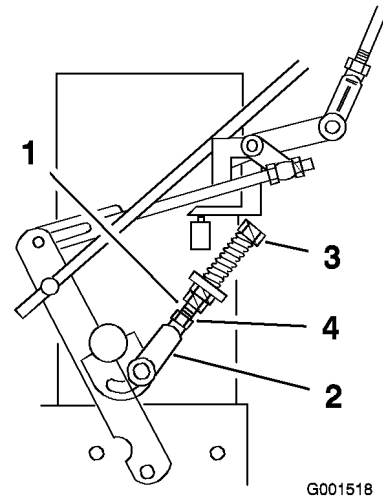

Figure 35
9. If the wheel turns while holding the drive lever in neutral, the neutral control linkages need to be adjusted (Figure 35). If wheel stops then go to step 12.
10. Loosen the nut against the neutral control linkage yoke (Figure 35).
11. Adjust the neutral control linkage until the respective drive wheel stops while the drive lever is pulled against the neutral spring (neutral position) (Figure 35).
turn counter-clockwise if the wheel is turning forward (Figure 35).